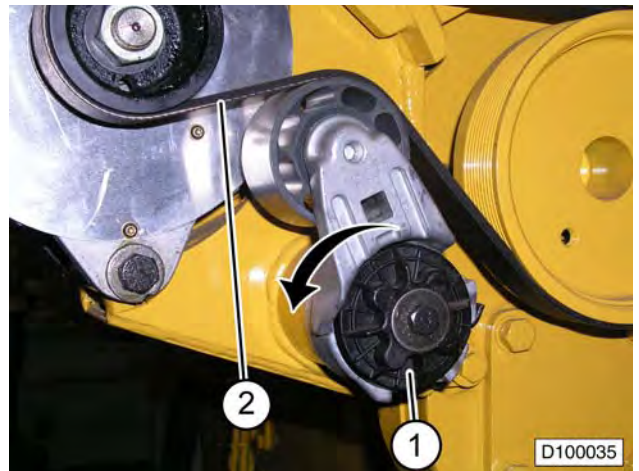

FIGURE 10-22. AUTOMATIC BELT TENSIONER ASSEMBLY
- Use a $\frac{3}{4}$ inch square drive breaker bar to release the tension on automatic belt tensioner (1, Figure. 10-22.)
- Remove belt (2). Replace the belt if signs of wear or damage are found.